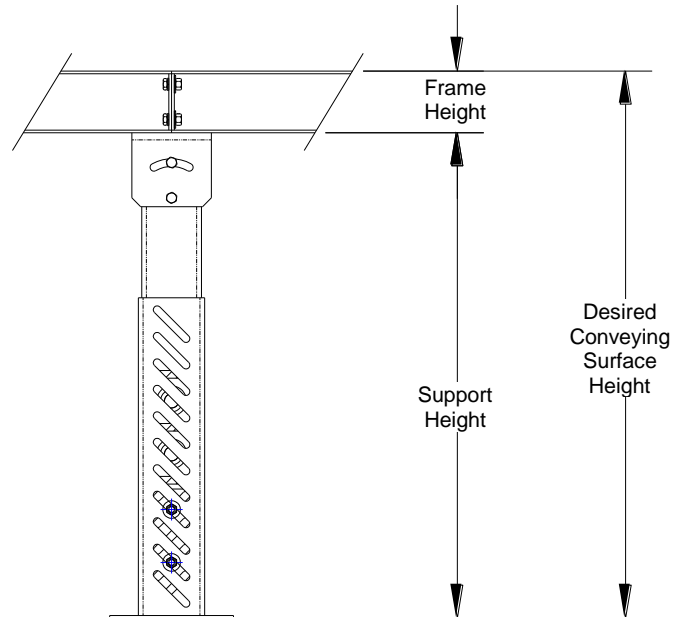

Figure 2 – Support Height Adjustment
- Set the support height. Subtract frame height from desired conveying surface. See Figure 2. Adjust the supports to this dimension by sliding inner and outer legs and tighten all butt couplings and support mounting bolts.